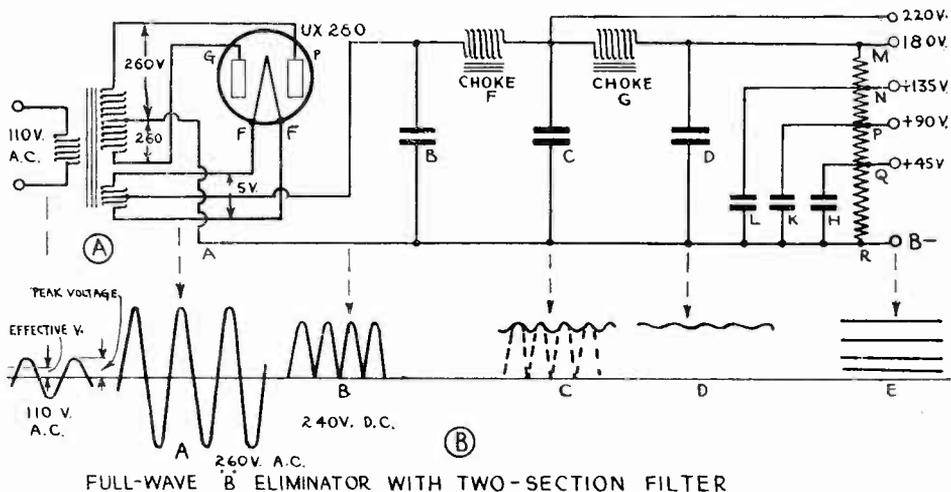

Fig. 54: Schematic diagram of a full-wave power system with a two-section filter.
93. CHOKES AND FILTER CONDENSERS: The filter condensers used in eliminators must be built to withstand the peak voltages encountered. The condenser nearest the rectifier is subjected to the highest peak voltages. As the voltages at the input of the rectifier and immediately following it are alternating and pulsating direct current voltages, respectively, the values indicated are the "effective values." The "effective voltage" is the value of voltage which gives exactly the same heating effect as an equal direct current of the same potential. This is the value which an A. C. voltmeter indicates. The peak value of an alternating voltage is the maximum value to which the voltage rises during any part of the cycle (see Fig. 54). The shape of the ordinary A. C. voltages encountered is such that the potential is proportional to the sine of an angle (sine wave), and when the voltage has such a form, the peak value is 1.41 times the effective voltage. As the condenser insulation must safely withstand the peak voltage twice during each cycle, the condensers used must have a voltage rating exceeding the peak voltage for safety.
Thus, in Fig. 54 the A. C. voltage applied to condenser B is about 245 volts. The normal peak value (which the condenser must safely withstand) is 245×1.41 or 345 volts. This should be remembered when constructing an eliminator. The chokes should have sufficient current carrying rating, so that at no time is the carrying capacity reached. When the current rating of a choke is exceeded it rapidly decreases in inductance value and does not then measure up to the requirements of a
In Fig. 54 a 220 volt tap is taken off before the last choke. This is often done to supply a higher voltage to the last power tube, since then the voltage drop through the last choke is eliminated. Not as much filtering is required for this tube since any slight hum introduced is not amplified by any succeeding tubes. Also any coupling which might exist between the last audio stage and other tubes in the set, due to the common heavy plate current flowing through the impedance of the chokes, is reduced, as the last choke is put out of the plate circuit of the power tube by this method.